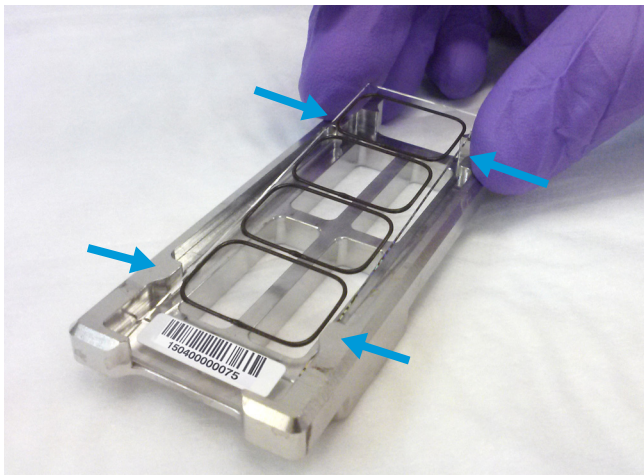

Figure 4. Chamber base, guide posts denoted with arrows
- 2 Position the gasket slide between the 4 chamber base guide posts (see **Figure 4**) with the barcode label resting over the base's rectangular barcode guide.